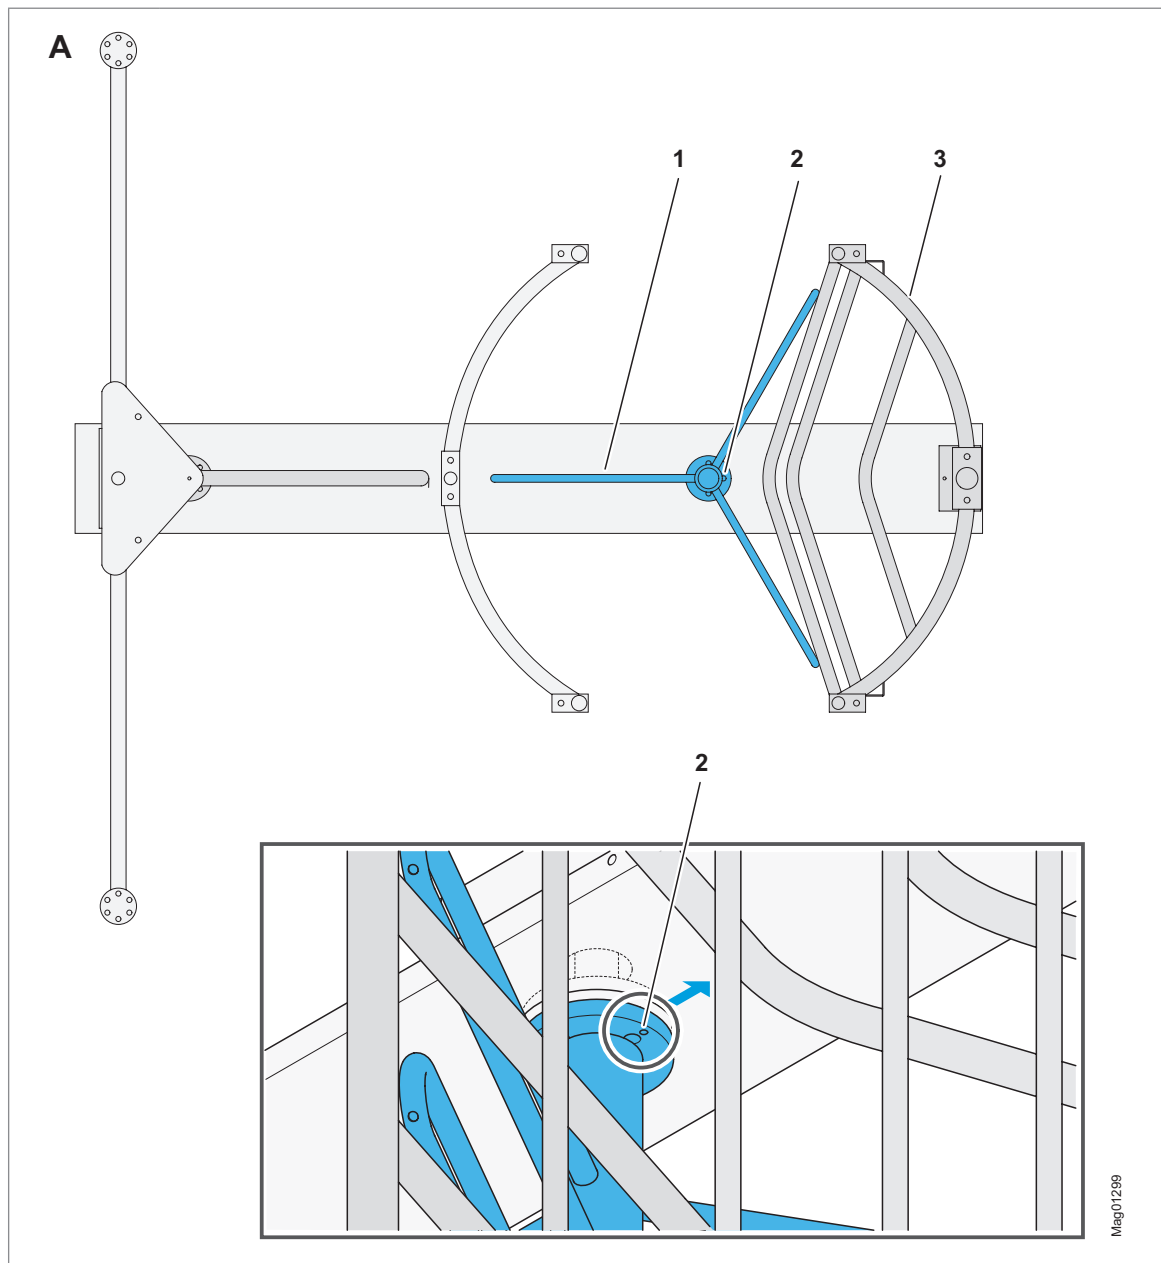

Fig. 44: Alignment of the centre pillar before mounting
4. Fix the centre pillar to the locking flange from above using the four screws supplied. Make sure that the centre pillar is correctly positioned in relation to the locking unit. ➤ Page 71, Fig. 44.